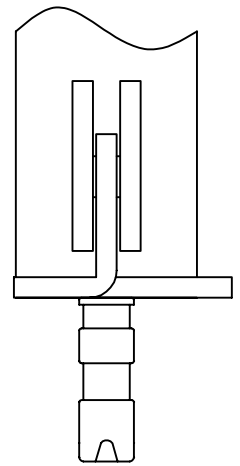

FIG. 2
4) Insert bolts and anchors into holes, tap with hammer until flush, and tighten securely. FIG. 2